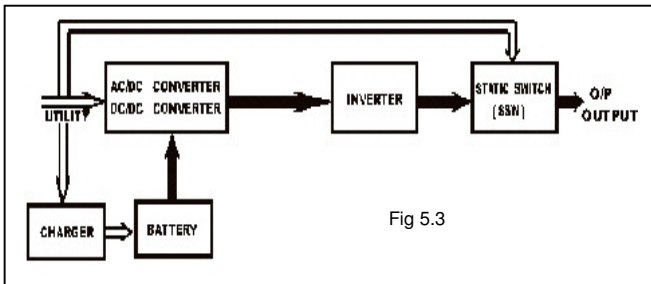

Fig 5.3
3. During a Power outage, the UPS will work as illustrated in figure 5.3. When Battery is low, buzzer will beep continuously till battery is completely cut off. The battery low protection of the UPS will cut off battery supply after a preset threshold to avoid the battery from over-drain. The Δ LED & **Low** symbol in LCD will light up till the UPS is completely cut off. The UPS will re-start automatically when Mains is available.